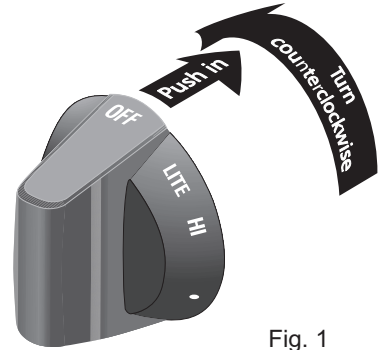

Fig. 1
2. Push the knob in and turn **counterclockwise** out of the OFF position (See Fig. 1).